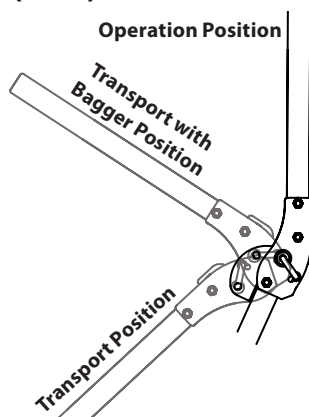

Figure 22
Refer to Figure 22 and the following descriptions and uses for the three (3) positions for the ROPS.
2. Move the ROPS into the desired position. The three positions are TRANSPORT position, TRANSPORT WITH BAGGER position and OPERATION position. See Figure 22.